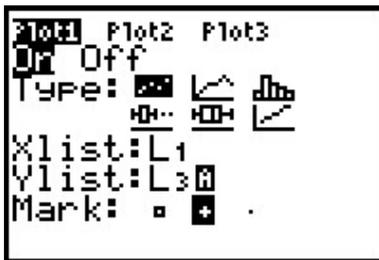

Fig.16
2. To display the $\ln(U)$ vs time one should define the new active plot Plot2 as L_3 vs. L_1 (Fig.16).